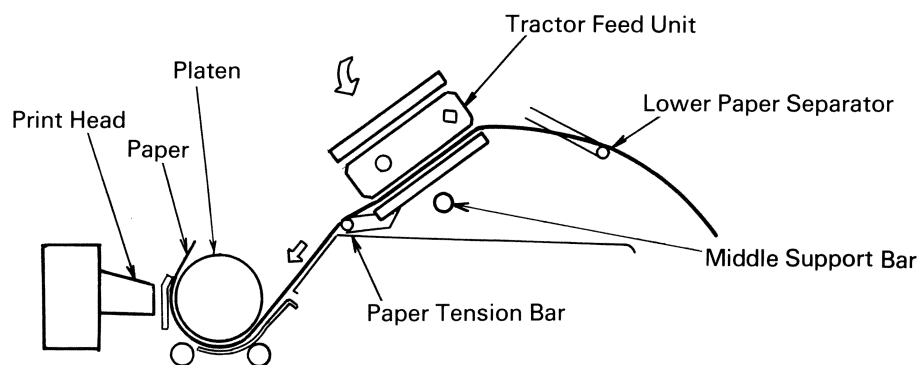

Figure 7
8. Advance the paper by turning the Platen Knob so that the paper enters the Paper Insertion Opening above the Paper Tension Bar. (See Figure 7.)